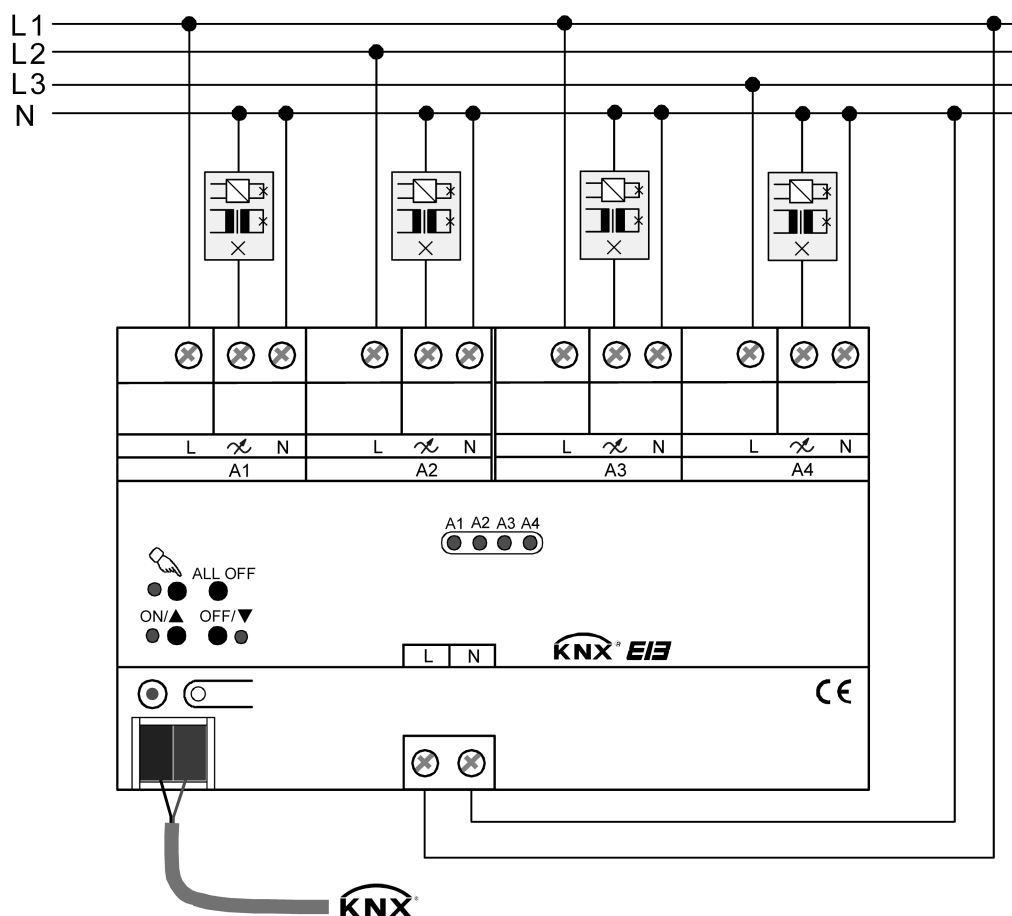

Figure 4: Electrical connection (using the example of the 4gang display variant)
- Connect the bus, the connection of the power supply and the load according to the connection diagram.(figure 4).